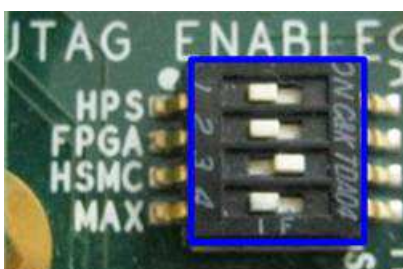

Figure 2-2 JTAG Enable for CycloneV SX/ArriaV ST SoC board
- a) For CycloneV SX and ArriaV ST SoC, set SW4[1]/[2]/[4] = OFF position to enable JTAG of HPS, FPGA, and MAX, as shown in Figure 2-2